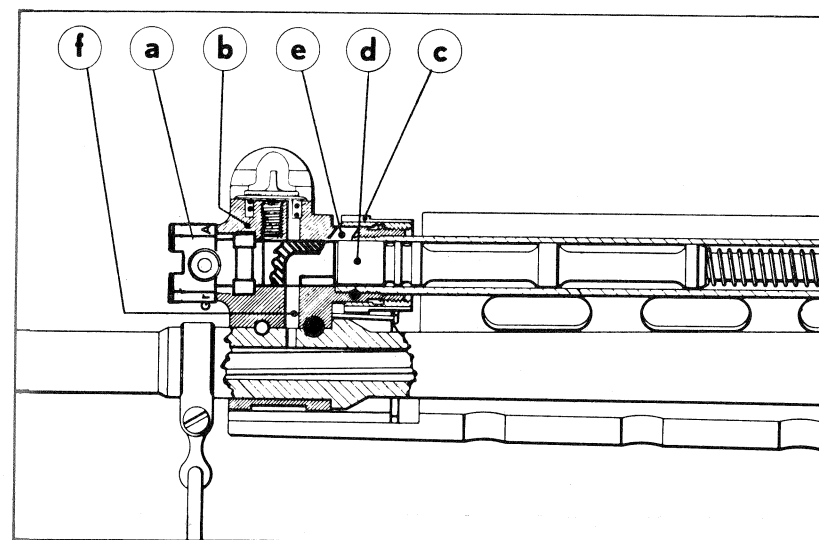

Fig. 4
- The bullet travels through the bore of the barrel, and arrives at the tapped gas port (f) (fig. 4).